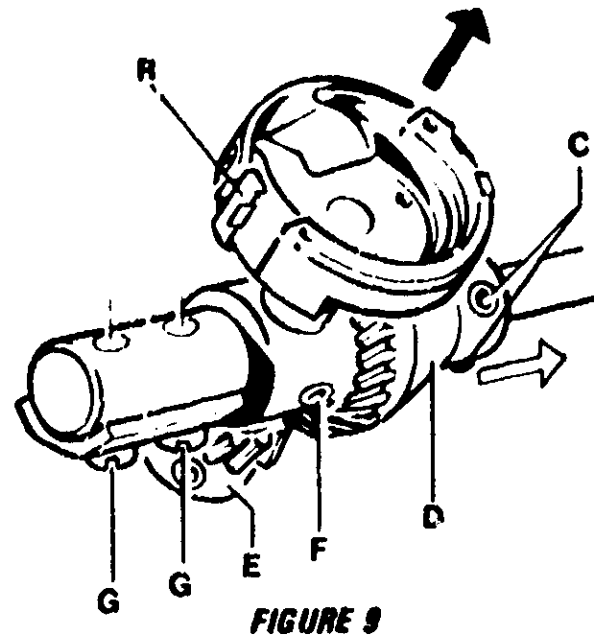

FIGURE 9
- Rotate handwheel to bring needle to its highest position. Remove needle, presser foot, needle plate, bobbin, bobbin case and bobbin case holder. To remove bobbin case holder, slide tab "R" (Figure 9) downward. This will release the bobbin case holder retaining ring.
- Loosen screws (C) (Figure 9) and move crown gear (D) away from shuttle pinion gear (E).
- Loosen screws (F) and (G) (Figure 9) and pull shuttle hook assembly upward.
- Tighten screws (F) and (G) securely. Reinstall gauge and recheck shuttle position. Remove the gauge and verify that the shuttle assembly rotates freely and smoothly.
- Reposition crown gear (D) and tighten screws (C) securely (Figure 9). CAUTION Gears should be snug but not so tight as to create a binding. There should not be any up and down movement of the shuttle assembly.